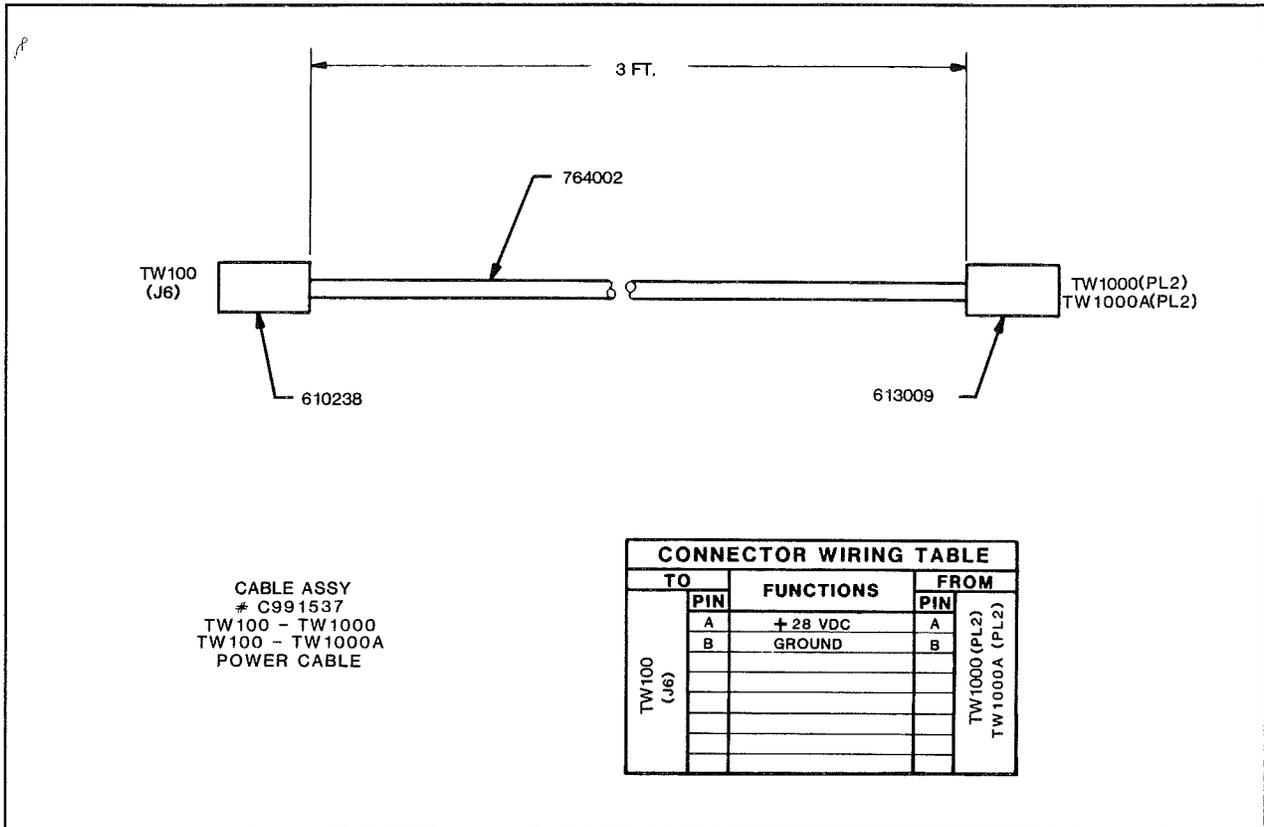

FIGURE 3-13. Power Cable (C991537).
1. C991537 -- See Figure 3-13.